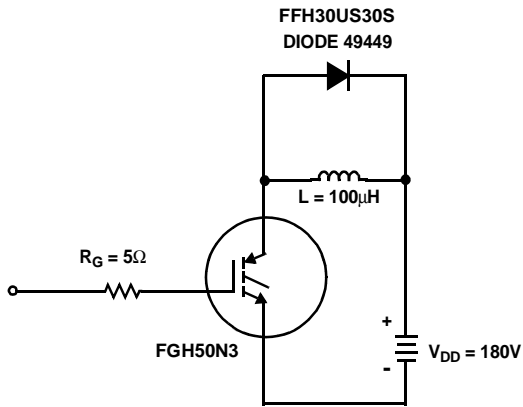

Figure 20. Inductive Switching Test Circuit
1.  $E_{ON2}$  is the turn-on loss when a typical diode is used in the test circuit and the diode is at the same  $T_J$  as the IGBT. The diode type is specified in figure 20.